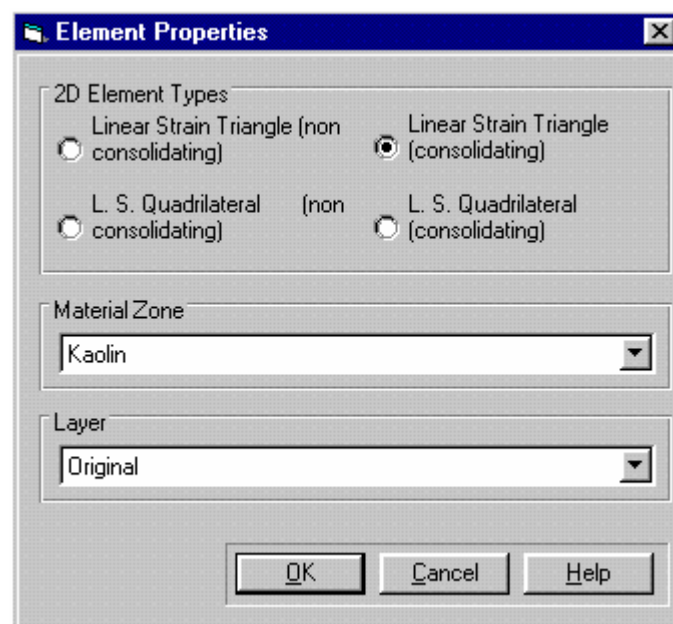

Figure 6-13: Assigning Element types and Material Zones
- Step 5** The Element Properties dialogue box should now look like Figure 6-13. Click on **OK** to exit, once you have finished.